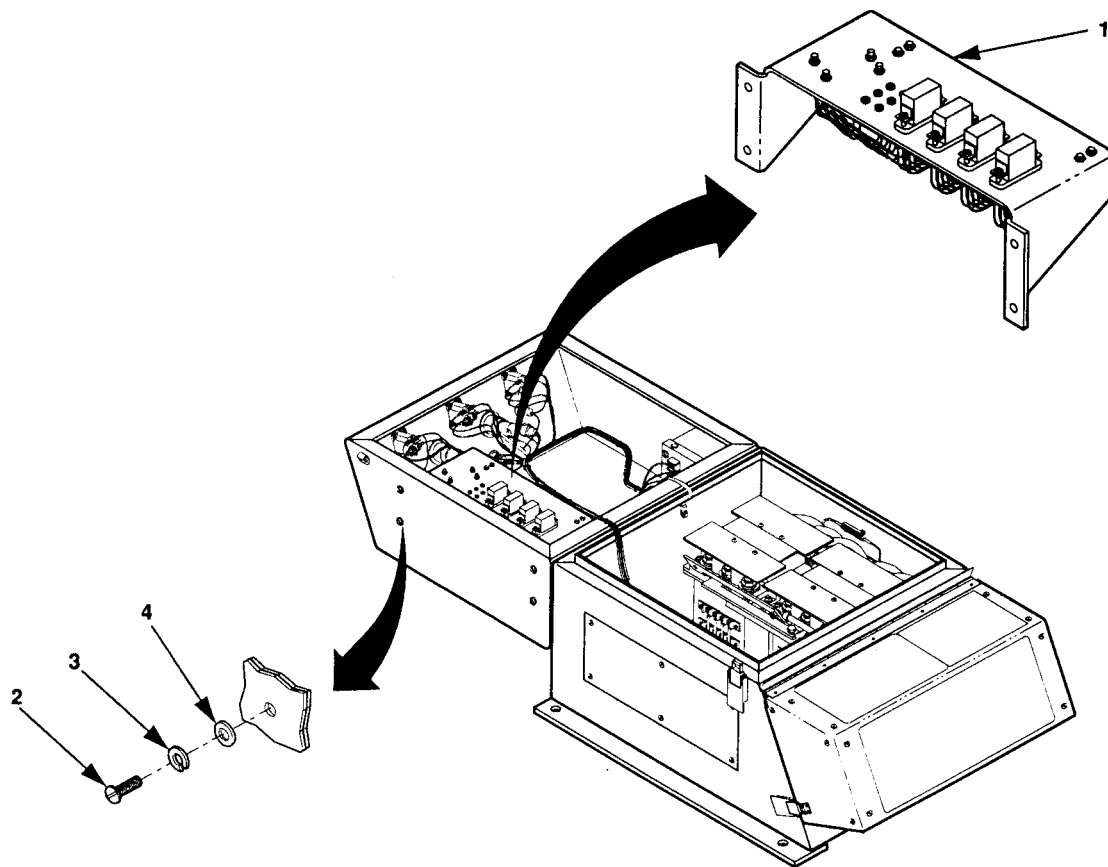

Figure 5-9. Switch Box Relay Board Assembly.
1. Remove four screws (2, figure 5-9), lock washers (3), and flat washers (4), and invert relay board assembly (1).